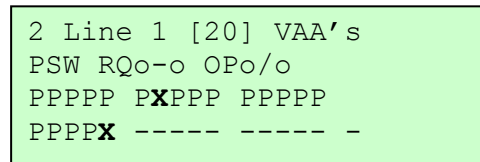

Figure 33
2. Figure 33 shows how the Line Status page once all the confirmations have been received. Note the two **x** symbols, indicating that VAAs at addresses 7 and 20 failed to confirm the pre-start alarm.